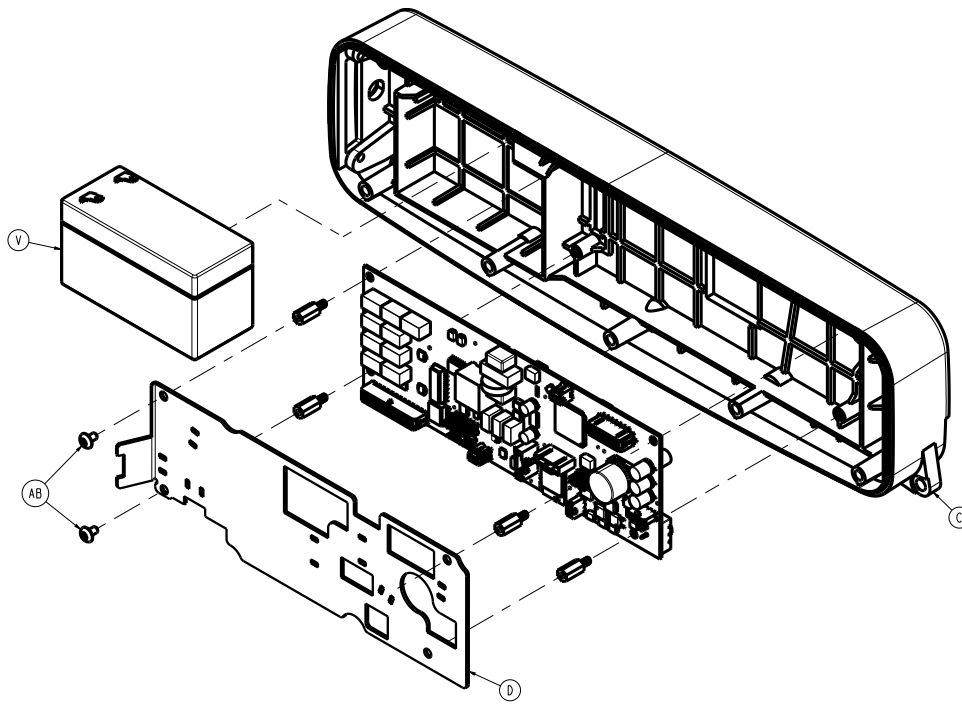

Figure 5 – Replacing the battery (left)
8. Using a #2 Phillips screwdriver, remove the two screws (AB) near the battery (V) that secure the cable routing tray (D) to the body (C) (Figure 5). Save the screws.
10. Move the 37-pin cable and cable routing tray (D) up to remove the battery (700000341245) (V) from the body (C) (Figure 5).
8. Unplug the two battery cables. Discard the battery (700000341245) (V) (Figure 5).
7. Using a #2 Phillips screwdriver, remove the two screws (AB) near the battery (V) that secure the cable routing tray (D) to the body (C) (Figure 5). Save the screws.